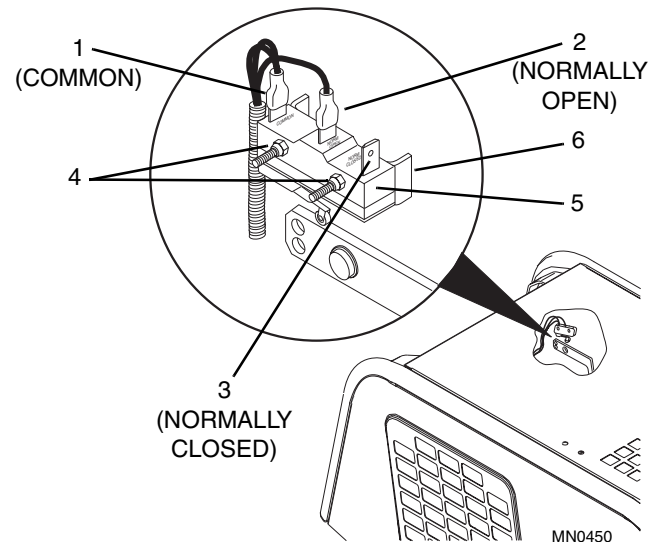

Figure 8-38 Seat Restraint Bar Micro Switch
IMPORTANT: The micro switch used has three terminals on its top surface. The rear terminal (Fig. 8-38, 1) is labeled "COMMON," the center terminal (2) is labeled "NORMALLY OPEN," and the front terminal (3), which is NOT used, is labeled "NORMALLY CLOSED." Ensure that the wires are properly connected to the rear (1) and center (2) terminals on the micro switch (5).
3. Tag and disconnect red/white wire #18 and red/black wires #30/30A (Fig. 8-38, 1 & 2) from the micro switch (5) terminals.
4. Use an ohmmeter or a continuity tester to test the micro switch (Fig. 8-38, 5) for continuity at the switch terminals (1 & 2) as follows:
5. If the micro switch tests defective, remove two plastic plugs on the left side of the cab exterior, the two locknuts and machine screws (Fig. 8-38, 4) holding the micro switch (5) to the mount (6), and remove the micro switch (5).